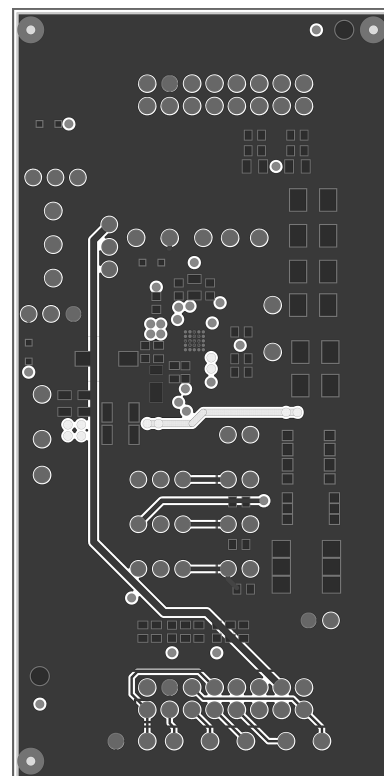

Figure 14. LP5526 Evaluation Board Layer 4 (Bottom,  $V_{DD\_USB}$ )
4. Bottom, solder side,  $V_{DD\_USB}$  (Figure 14)